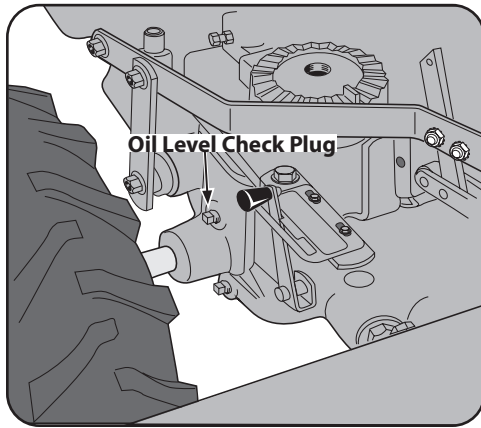

Figure 5-6
4. Use a 3/8" wrench to remove the oil level check plug on the left side of the transmission housing. See Figure 5-6.
2. Remove the dipstick from the tine attachment. See Figure 5-6 on page 17.